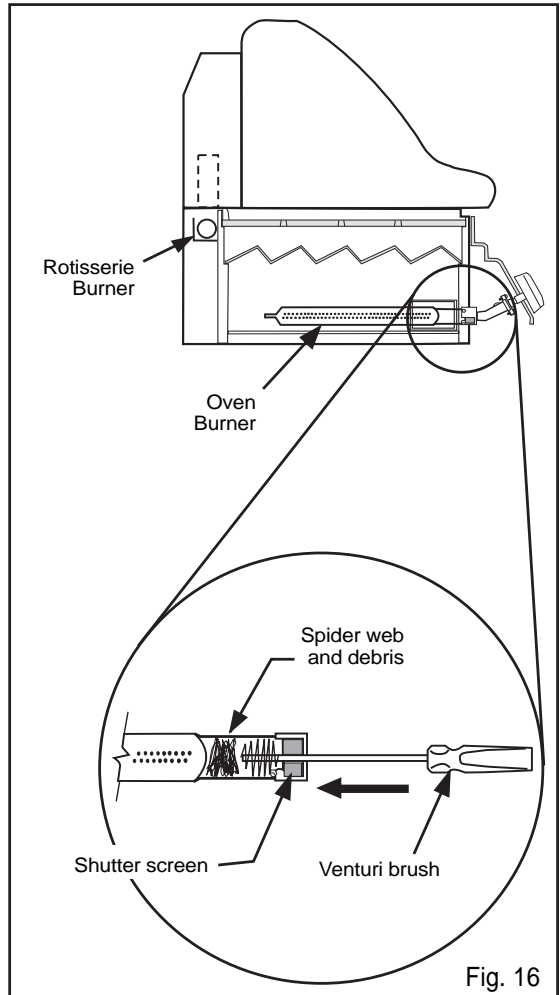

Fig. 16
WARNING: Always inspect the air shutter screen periodically to confirm that it is clear of food residue, spider webs or other insect debris. A clogged venturi tube can cause a fire to occur beneath the Grill, due to a flashback of gas (see Fig. 16).
- Loosen the burner attachment screws (from inside) to allow the burners to be pulled away from the valves far enough for a venturi brush or suitable cleaning device to be inserted into the burner venturi to clean away debris (see Fig. 16). Be careful not to damage the electrode ceramics.